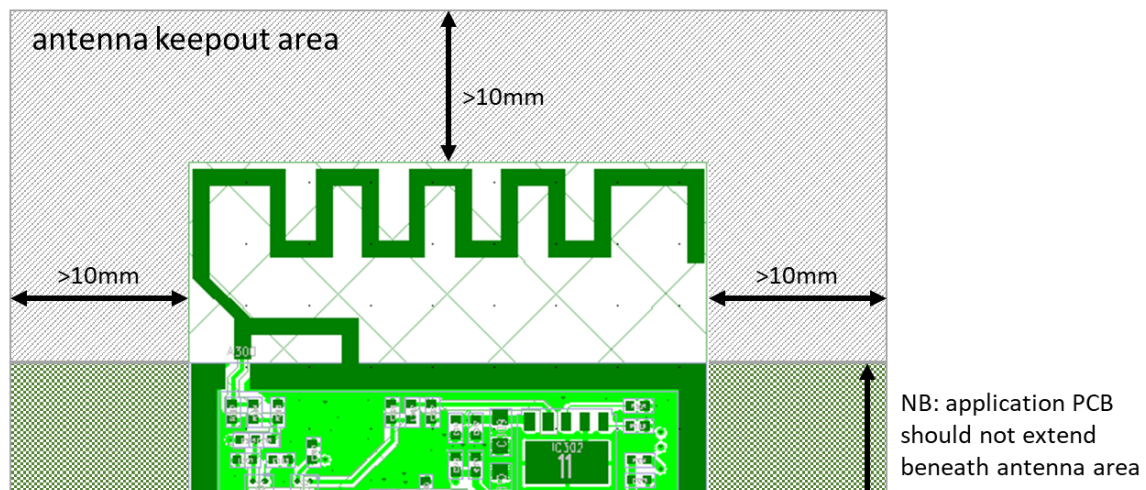

Figure 8. Keep-out areas
- The application PCB may not extend underneath the antenna area (see Figure 8).
- No metal objects should be placed in the vicinity of the antenna (see Figure 8).